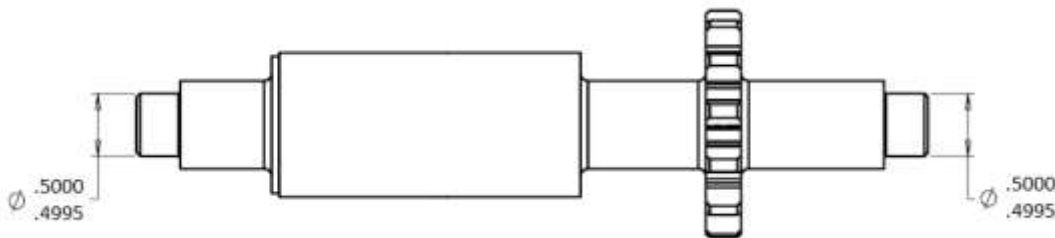

Figure 49
- (1) Clean the PMA body and shaft with denatured alcohol.
- (2) Inspect the shaft and body for any foreign material, including metal shavings. If foreign material is found and cannot be removed, replace the PMA.
- (3) Using a micrometer, measure the diameter of each end of the shaft and ensure the measurement is within .4995 and .5000 inches (Figure 49). If measurement is not within .4995 and .5000, replace the PMA.